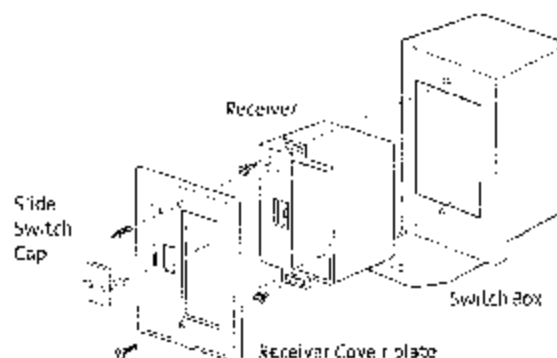

Figure 39. Install Remote Receiver into the burner switch box.
3. With the battery box oriented to the right, attach the Receiver assembly onto the front of the insert Burner switch box using the two sheet metal screws previously removed from the original cover plate. See fig. 39.